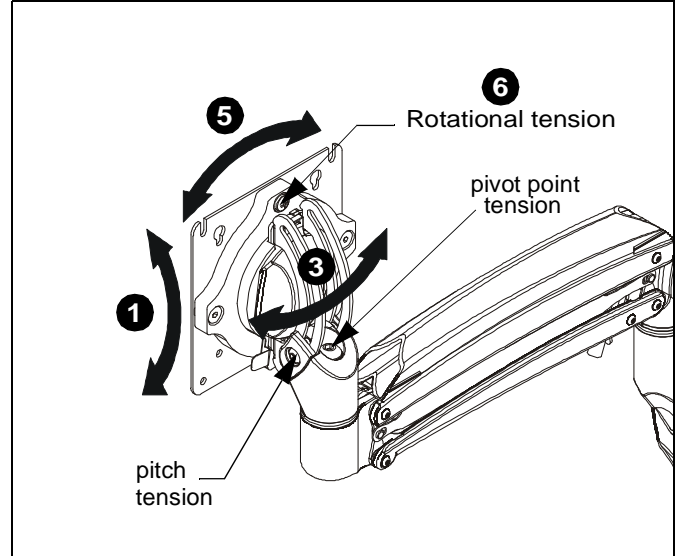

Figure 9
1. Adjust pitch to desired tilt position. (See Figure 9)
2. Adjust pitch tension screw to change the adjustment tension. (See Figure 9)
3. Adjust pivot position as desired. (See Figure 9)
4. Use 3/16" hex key (L) to adjust pivot point tension screws to change pivot adjustment tension. (See Figure 9)
5. The monitor may be adjusted 90 degrees in either direction in order to provide a portrait view of the monitor. (See Figure 9)
6. Use 3/16" hex key (L) to adjust rotational adjustment screw to adjust rotational tension. (See Figure 9)